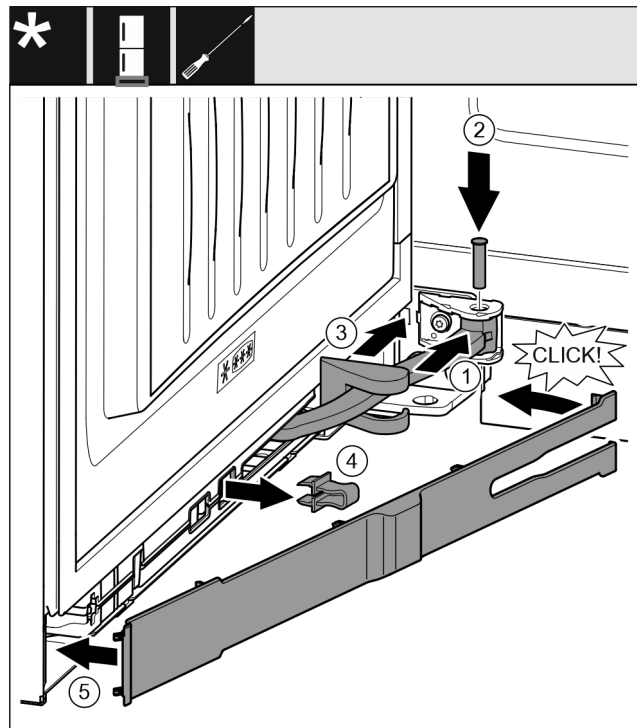

Fig. 44
- ▶ Turn the joint Fig. 44 (1) in the hinged suspension.
- ▶ Use a screwdriver to insert the pin Fig. 44 (2) into the hinged suspension and joint. In the process, make sure that the latching cam is correctly positioned in the groove.
- ▶ Slide the swap bearing block cover Fig. 44 (3) along the joint and install it above the hinged suspension.
- ▶ Remove the locking device Fig. 44 (4).
- ▶ Attach the panel Fig. 44 (5) from the handle side and swivel it on.